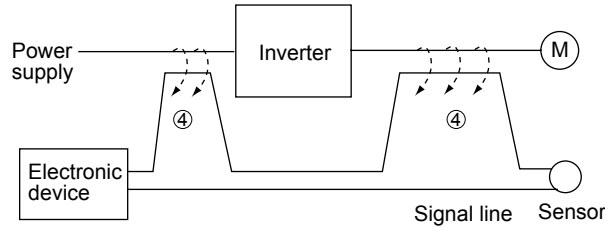
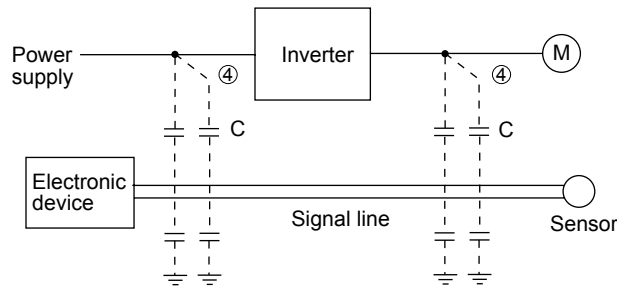

Fig. 4 Electromagnetic noise
Fig. 5 Electrostatic noise
(2) Induction noise
When the wire and signal lines of peripheral devices are brought close to the wires on the input and output sides of the inverter, noise is induced in the wire and signal lines of the devices by electromagnetic induction (Fig. 4) and electrostatic induction (Fig. 5). This is induction noise ④.